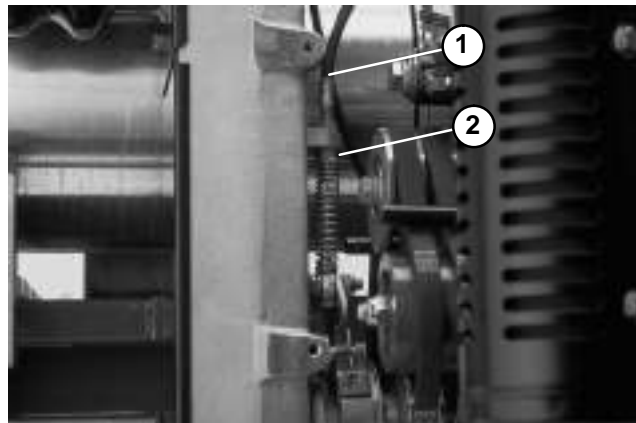

Figure 10
**Note:** Figure 10 is shown with the bellcrank cover removed for illustrative purposes. It is not necessary to remove the cover.